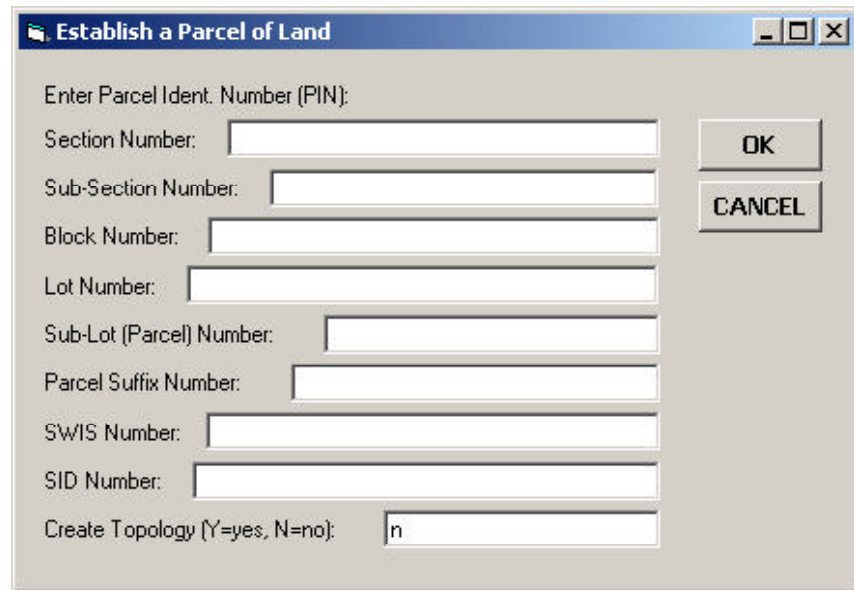

Figure 5
- 5 Click at the **Yes** button to confirm the selection, and display the input dialog box of Figure 5 or 6, or click at the **No** button to select another nearby feature within the snapping tolerance, and display again the feature selection confirmation *Yes/No/Cancel* confir-
- 6 Depending upon the active PIN Format, the Parcel Identification dialog box will vary, as illustrated by Figures 5 and 6.